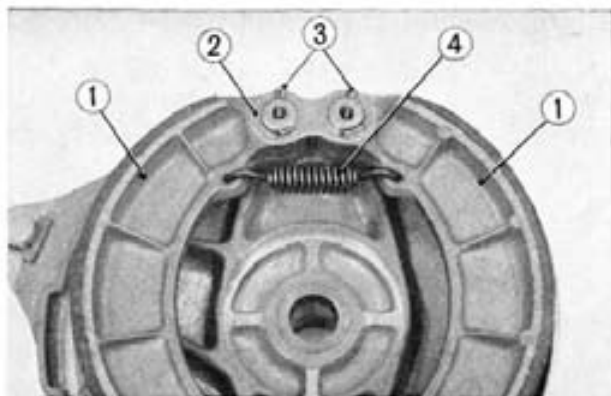

Fig. 13-20
② 6304 ball bearing
10. Remove the two cotter pin, washer and then the rear brake shoes can be removed from the rear brake panel. (Fig. 13-20)